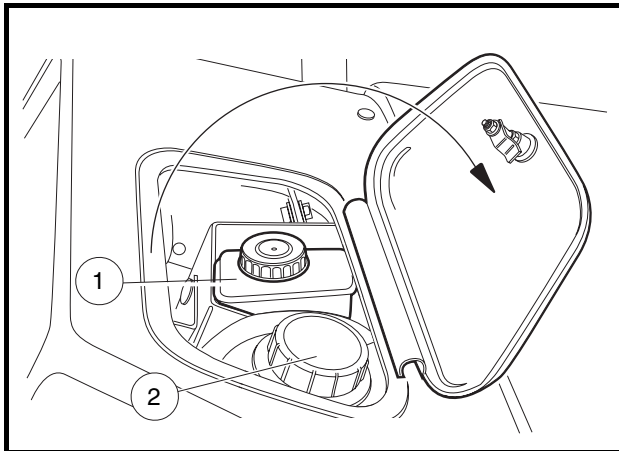

Figure 17 Brake Fluid and Coolant Access Door
The brake fluid reservoir (1) is located under the dashboard (**Figure 17**). Raise the access panel located on top of the dashboard to check the brake fluid level.